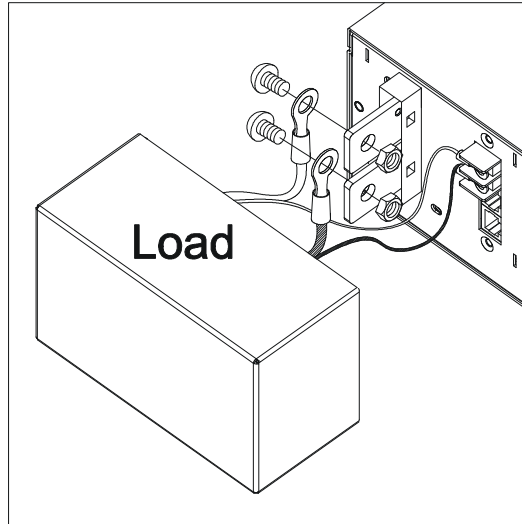

Figure 2-9
2. Figure 2-9 shows the correct connection. Use two wires to connect the positive/negative connector of load to the remote sensing connector on the rear panel. The connecting wire diameter must be larger than 30AWG the withstand voltage should be within the specifications.